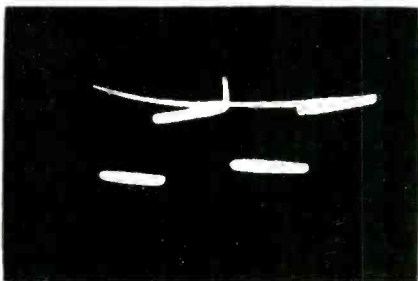
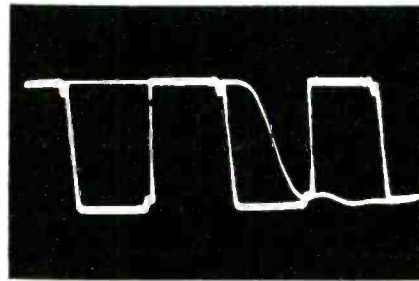

Fig. 3 — Overshoot as seen on scope.
Fig. 4 — Ringing as seen on scope.
A. Overshoot is illustrated in Fig. 3, and ringing is illustrated in Fig. 4. Overshoot consists of an initial abnormal circuit response, immediately followed by the steady-state condition. Ringing consists of electrical echoes in the circuit. In some cases, an overshoot is followed by a ringing condition.